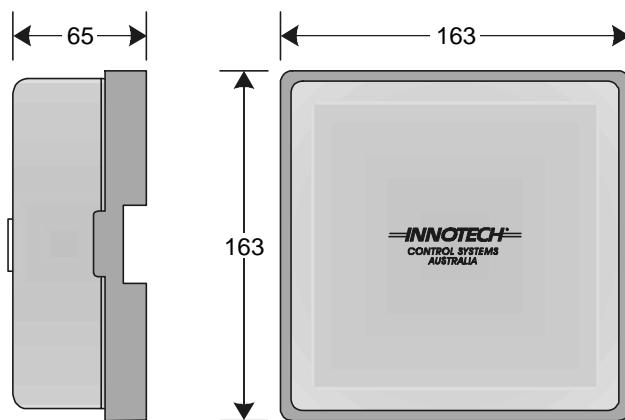

Figure 2-3. Genesis II Mid Points Controller.
**2-2.2.2.3. Multipoint Module.** The GENII MP REM Multipoint Module is a DIN Rail-mounted device that provides input/output expansion capability for the associated Genesis II Digital Controller or GENII MPC. It is designed to be located at a remote location. The GENII MP REM is enclosed in a square case made of flame-resistant Astrene M650 IR plastic. It is identical in appearance and dimensions to the GENII MPC (Figure 2-3).